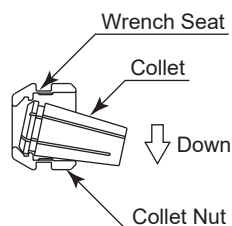
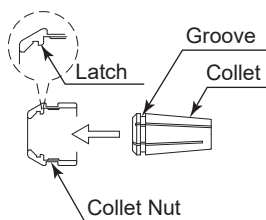
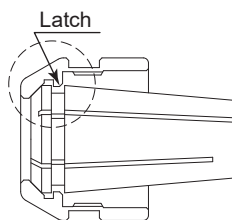

Fig. 9
Fig. 10
Fig. 11
- ② The collet and collet nut are secured by a groove in the collet and a flange in the collet nut. To remove the collet hold the collet nut in one hand and push diagonally down on the collet. The collet should be released (Fig. 9).
- ③ To install the collet, hold the collet at a slight angle, and insert it into the collet nut (Fig. 10). Press the collet in the collet nut by positioning the collet in the collet nut and pressing down on flat surface (Fig. 9, Fig. 10). Be sure to fully engage the latch inside the collet nut into the groove on the collet outer circumference area (Fig. 11).